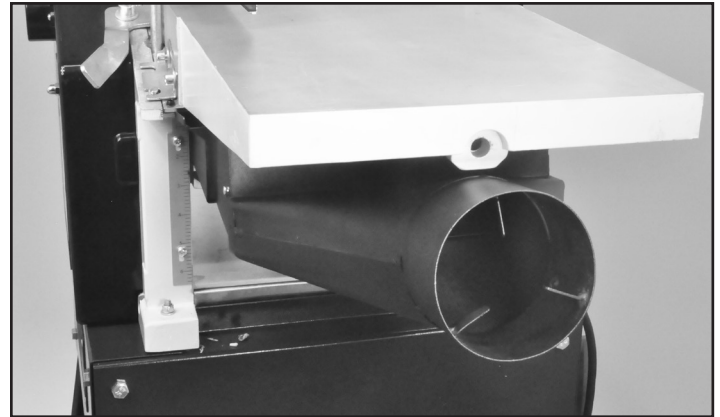

FIG. 34
2. Connect your Dust Collector Hose to the Dust Port, then raise the planer bed to secure the chip ejection hood in position for jointing. FIG. 34.